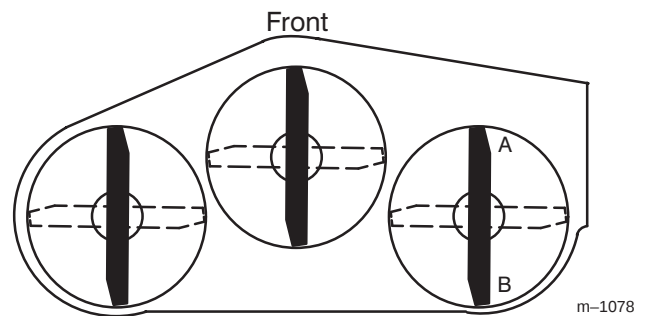
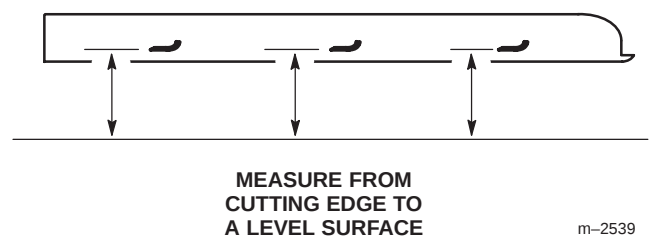

Figure 53
Figure 54
1. Position the **right** blade front-to-rear (Fig. 53).
2. Measure the right blade at the **A** location (Fig. 53), from a level surface to the cutting edge of the blade tip (Fig. 54).
4. Measure the right blade at the **B** location (Fig. 53), from a level surface to the cutting edge of the blade tip (Fig. 54).
6. The mower blade should be a **1/4 to 3/8 inch (6 to 10 mm) lower at position A than at position B** (Fig. 53). If it is not correct, proceed to the following steps.